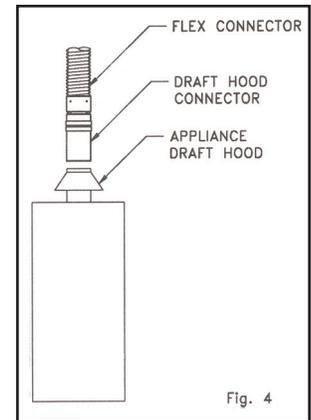

Fig. 4
5. Connect to the appliance. The connector may be directly connected to the appliance, but a draft hood connector is recommended. Screw the draft hood connector to the draft hood or collar, and connect the flexible connector to the draft hood connector (see Figure 4).